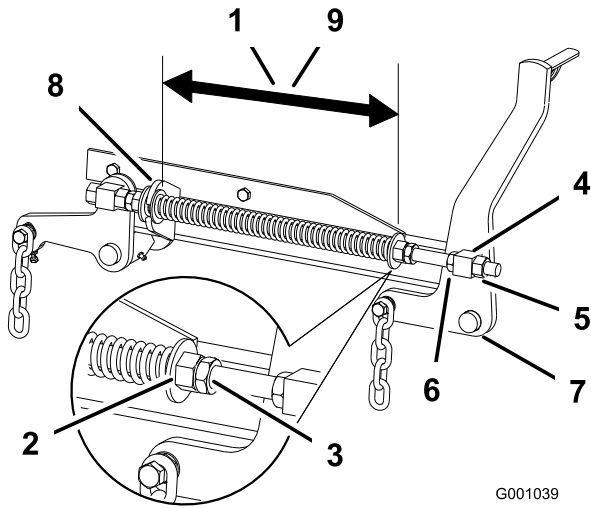

Figure 84
2. Check the distance between the two large washers, it needs to be 10-1/2 inches (26.7 cm) for 60 inch mower decks or 11-1/2 inches (29.2 cm) for 72 inch mower decks (Figure 84).
(Figure 84). Turning the nut clockwise will shorten the spring; counter-clockwise will lengthen the spring.
4. Lock the nut into position by tightening the spring jam nut (Figure 84).